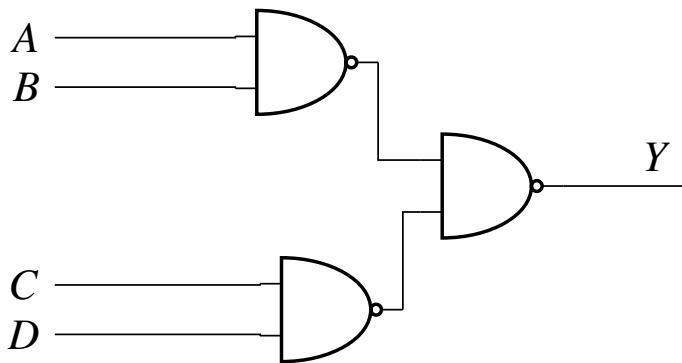

Fig. 3.32
48. In the logic circuit shown in Fig. 3.32, y is given by